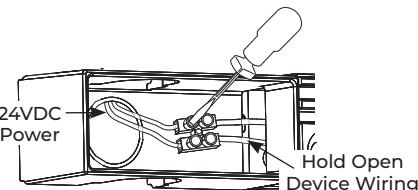

Figure 17
13. Using a small flat blade screwdriver, connect the hold open device wire connector to 24VDC power. (Figure 17)